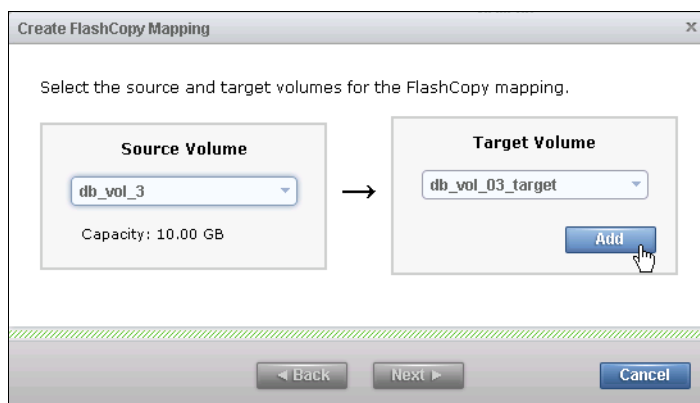

Figure 11-26 Select the target volume
2. You must choose the target volume for the source volume you selected. Select the target volume from the drop-down menu in the right pane and click **Add** (Figure 11-26).